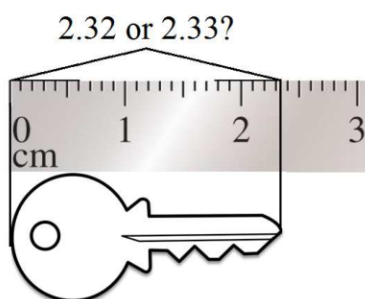

Figure 1- Uncertainty in measuring the length of a key
Every measurement involves some measurement uncertainty. There are two sources of uncertainty in any measurements. The main source of uncertainty in any measurement is the measuring device that was used. The last number of a reading (not for digital readings) has to be estimated, as it is always uncertain. For example, if we were to measure the length of a key on a ruler at the point shown in Fig. 1, we could say it is between 2.3 cm 2.4 cm with certainty. However, we could estimate it to be 2.32 cm or 2.33 cm with some degree of uncertainty. We know for sure that the length is 2.3, but the last digit has to be estimated. The numbers recorded in a measurement are usually all the certain numbers plus the first uncertain number. These are called significant figures. Thus the number of significant figures in a measurement is dependent on the inherent uncertainty of the measuring device. We would thus say that the length measured on the ruler is  $2.35 \pm 0.05$  cm, where 0.05 cm is the uncertainty in the measurement. The uncertainties for the typical instruments that we use in chemistry are shown in the Table 1.
**2. Precision:** Precision is a measure of reproducibility of a measurement, or how closely individual measurements agree with one another. This is like shooting arrows on a target and seeing how closely grouped your shots were to one another, regardless of how far you missed the center of target. Typically, when we make a series of several measurements on the same sample or replicate samples, we do not get exactly the same value for each measurement. There will be a dispersion or spread of the measured values. The smaller the spread of values, the more precise will be the average (or mean) value of the measurements. If the accepted value **is not known** (as in the case of present experiment), then we can only evaluate the precision of our measurements by first calculating the mean or average value. Then we can determine the spread or dispersion of measurements by calculating the deviations. Deviation is a measure of the spread of individual values from the mean value. The deviations in results from the average value indicate the precision of that measurement. For example, if we measure the length of the key in figure 1, it is likely to give 3 different lengths (more or less close to each other). The precision (or reproducibility) of the 3 lengths can be expressed as percent deviation.